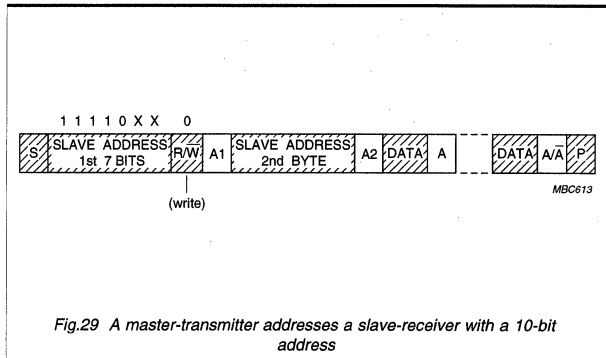

Fig.29 A master-transmitter addresses a slave-receiver with a 10-bit address
- **Master-transmitter transmits to slave-receiver with a 10-bit slave address. The transfer direction is not changed (Fig.29).** When a 10-bit address follows a START condition, each slave compares the first seven bits of the first byte of the slave address (11110XX) with its own address and tests if the eighth bit (R/W direction bit) is 0. It is possible that more than one device will find a match and generate an acknowledge (A1). All slaves that found a match will compare the eight bits of the second byte of the slave address (XXXXXXXX) with their